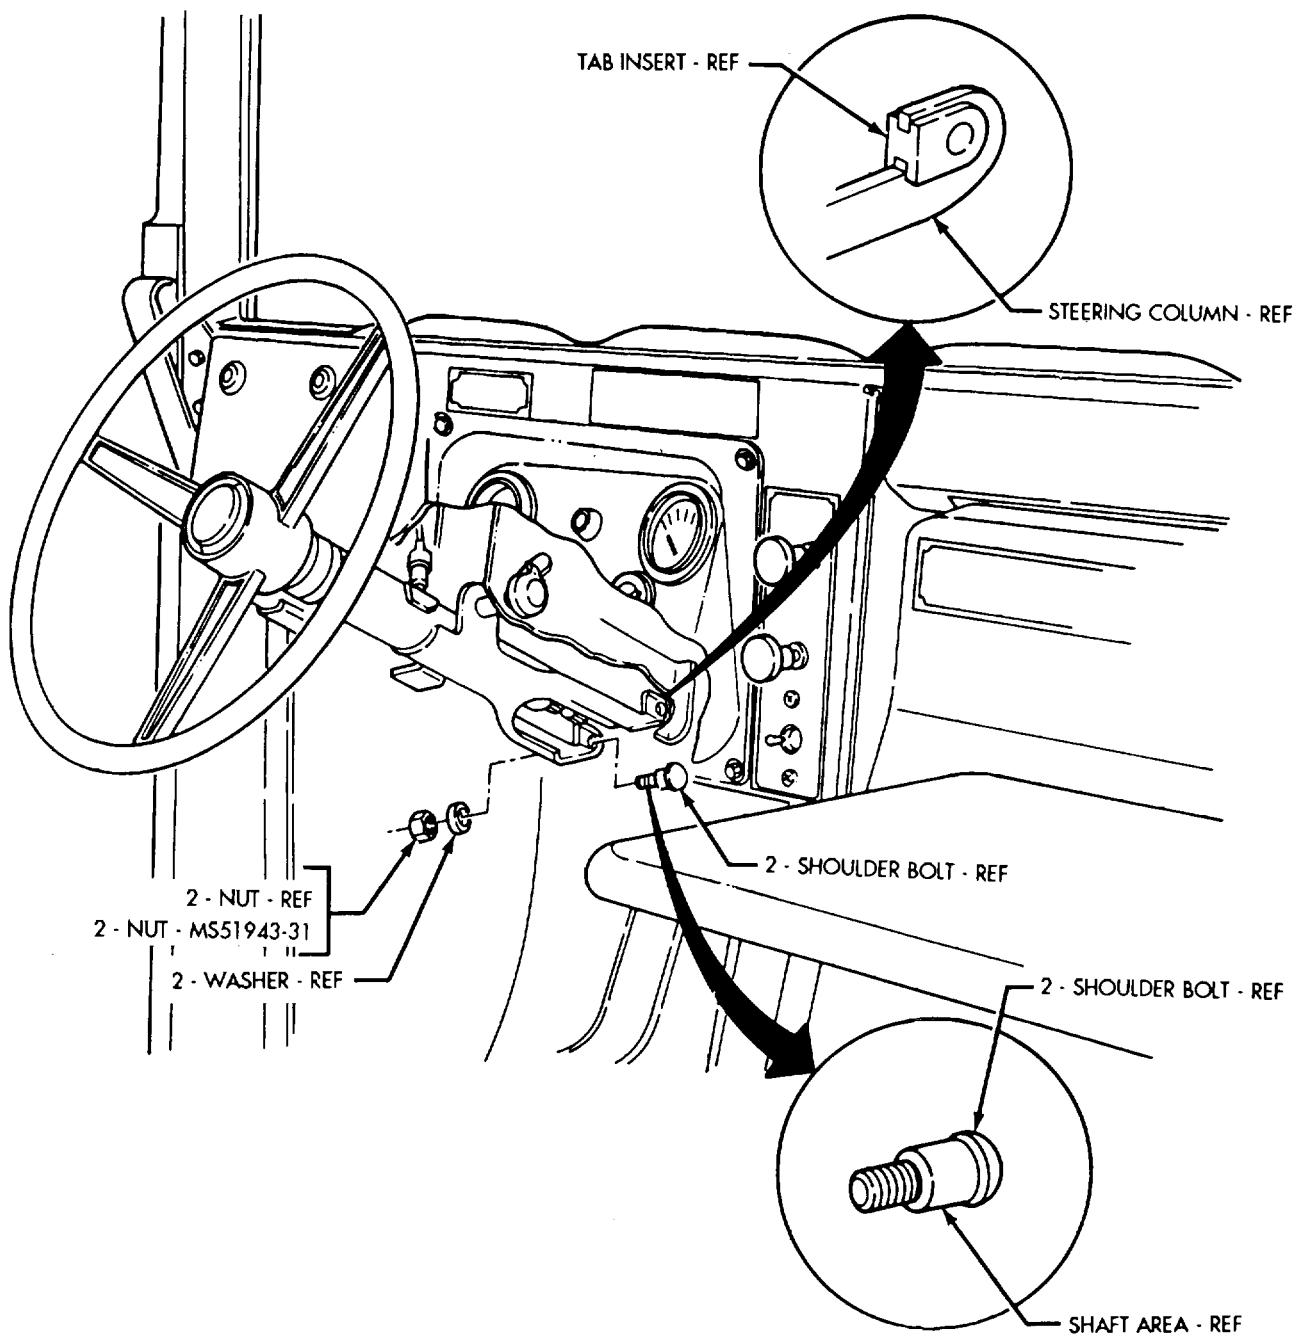

FIGURE 2
- (2) Remove two shoulder bolts, washers, and nuts from steering column as shown in figure 2.
- (3) Check tab inserts at end of steering column for paint and metal cracking as shown in figure 2. If cracking is present on or around tab inserts, discontinue inspection procedure and replace steering column (Refer to TM 9-2320-280-20).
- **Check shoulder bolts removed in step "2" for "mushrooming" around shaft area of shoulder bolt as shown in figure 2. If mushrooming is present, replace shoulder bolts, washers, and nuts (Refer to TM 9-2320-280-20).**